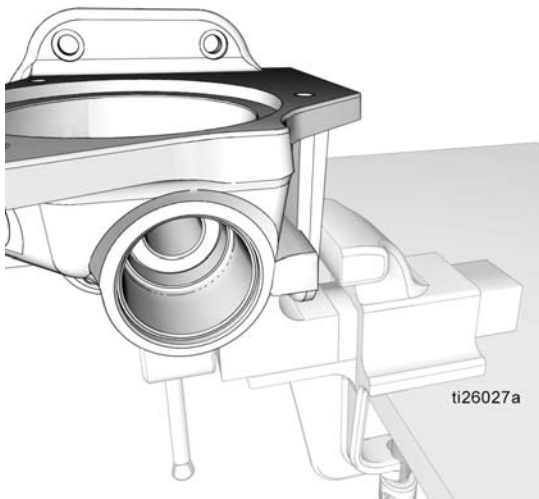

FIG. 42
- 4. Reposition the pump base (1) in the vise as shown in FIG. 42.